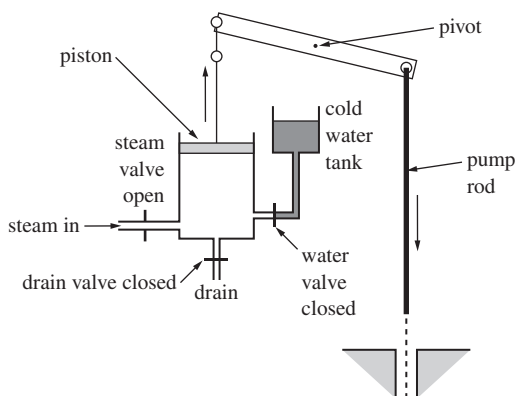

Figure 12
- the weight of the pump rod raised the piston and at the same time steam was admitted to the cylinder (see **Figure 12**)